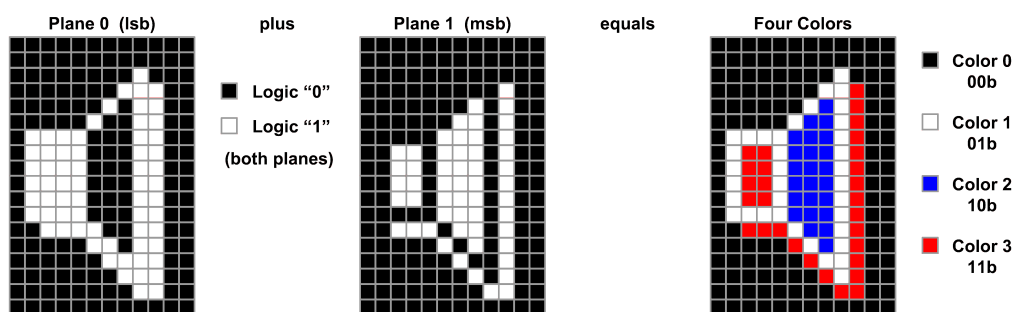

Figure 16. Four-Color Character
2. Four-color: There are a total of 128 four-color characters, in two banks of 64 (banks 3 and 7). Each pixel of the four-color character is defined by two bits of information, and thus can define four different colors, Color 0, Color 1, Color 2 and Color 3. Color 0 is defined as the “background” color. All other colors are considered “foreground” colors, although for most purposes, any of the four colors may be used in any way. Because each four-color character has two bits, the LM1247 internally has a matrix of two planes of ROM as shown in Figure 16. In that figure, dark pixels indicate a logic “1” and light pixels which indicate a logic “0”. The left side shows plane 0 which is the least significant bit and the middle figure shows plane 1 which is the most significant bit. The right side composite character formed when each pixel is represented by its two bits formed from the two planes. The color palette used in this example is “00” for white, “01” for black, “10” for blue and “11” for red.